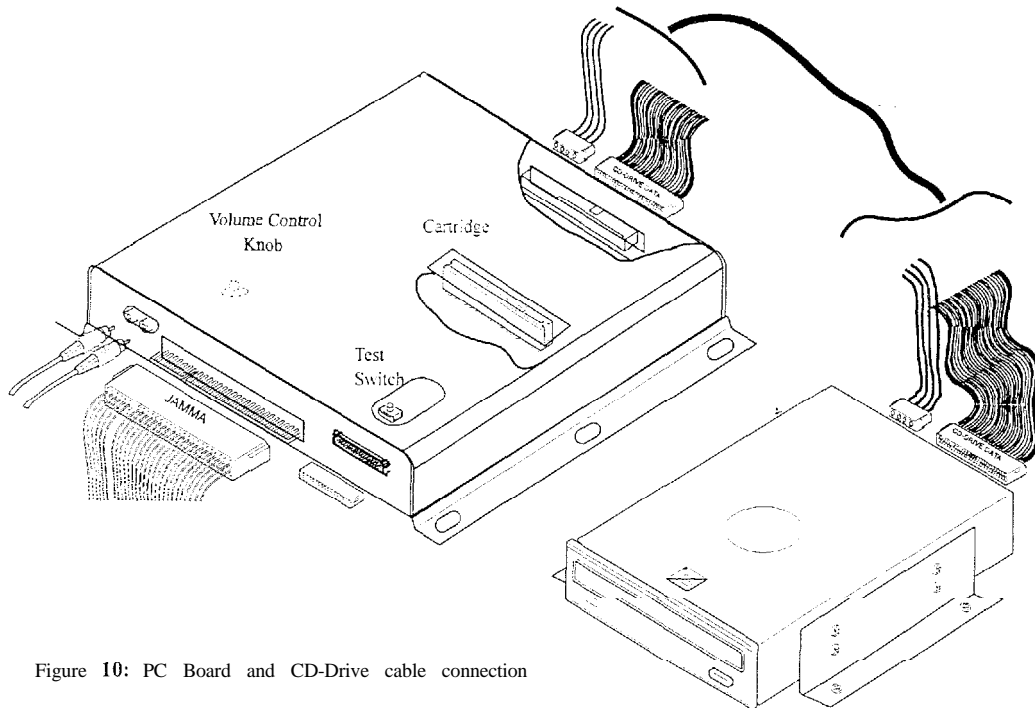

Figure 10: PC Board and CD-Drive cable connection
31. Attach Power and Data Cable to CD-Drive. Connect other end to SCSI combination connector on the main PCB (Figure 10).
32. Connect the JAMMA harness connector to the edge connector on the PC Board (Figure 10).
33. Attach the auxiliary cable connector to the PC Board. (Figure 10).
34. If you elect to use Q-Sound Audio Amplifier, connect audio cable to audio output on the PC Board. (Figure 10).
33. After the CD-ROM is installed, the game is playable. Adjust the speaker volume by turning the volume control knob clockwise to increase volume, or counterclockwise to decrease volume (see Figure 10)